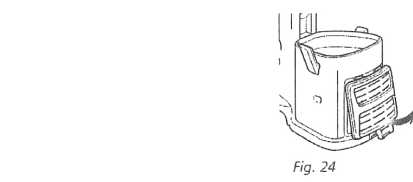

Fig. 24
- Remove the filter cover from the front of the vacuum by pulling up on the tab and pulling the cover away from the vacuum. (Fig. 24)